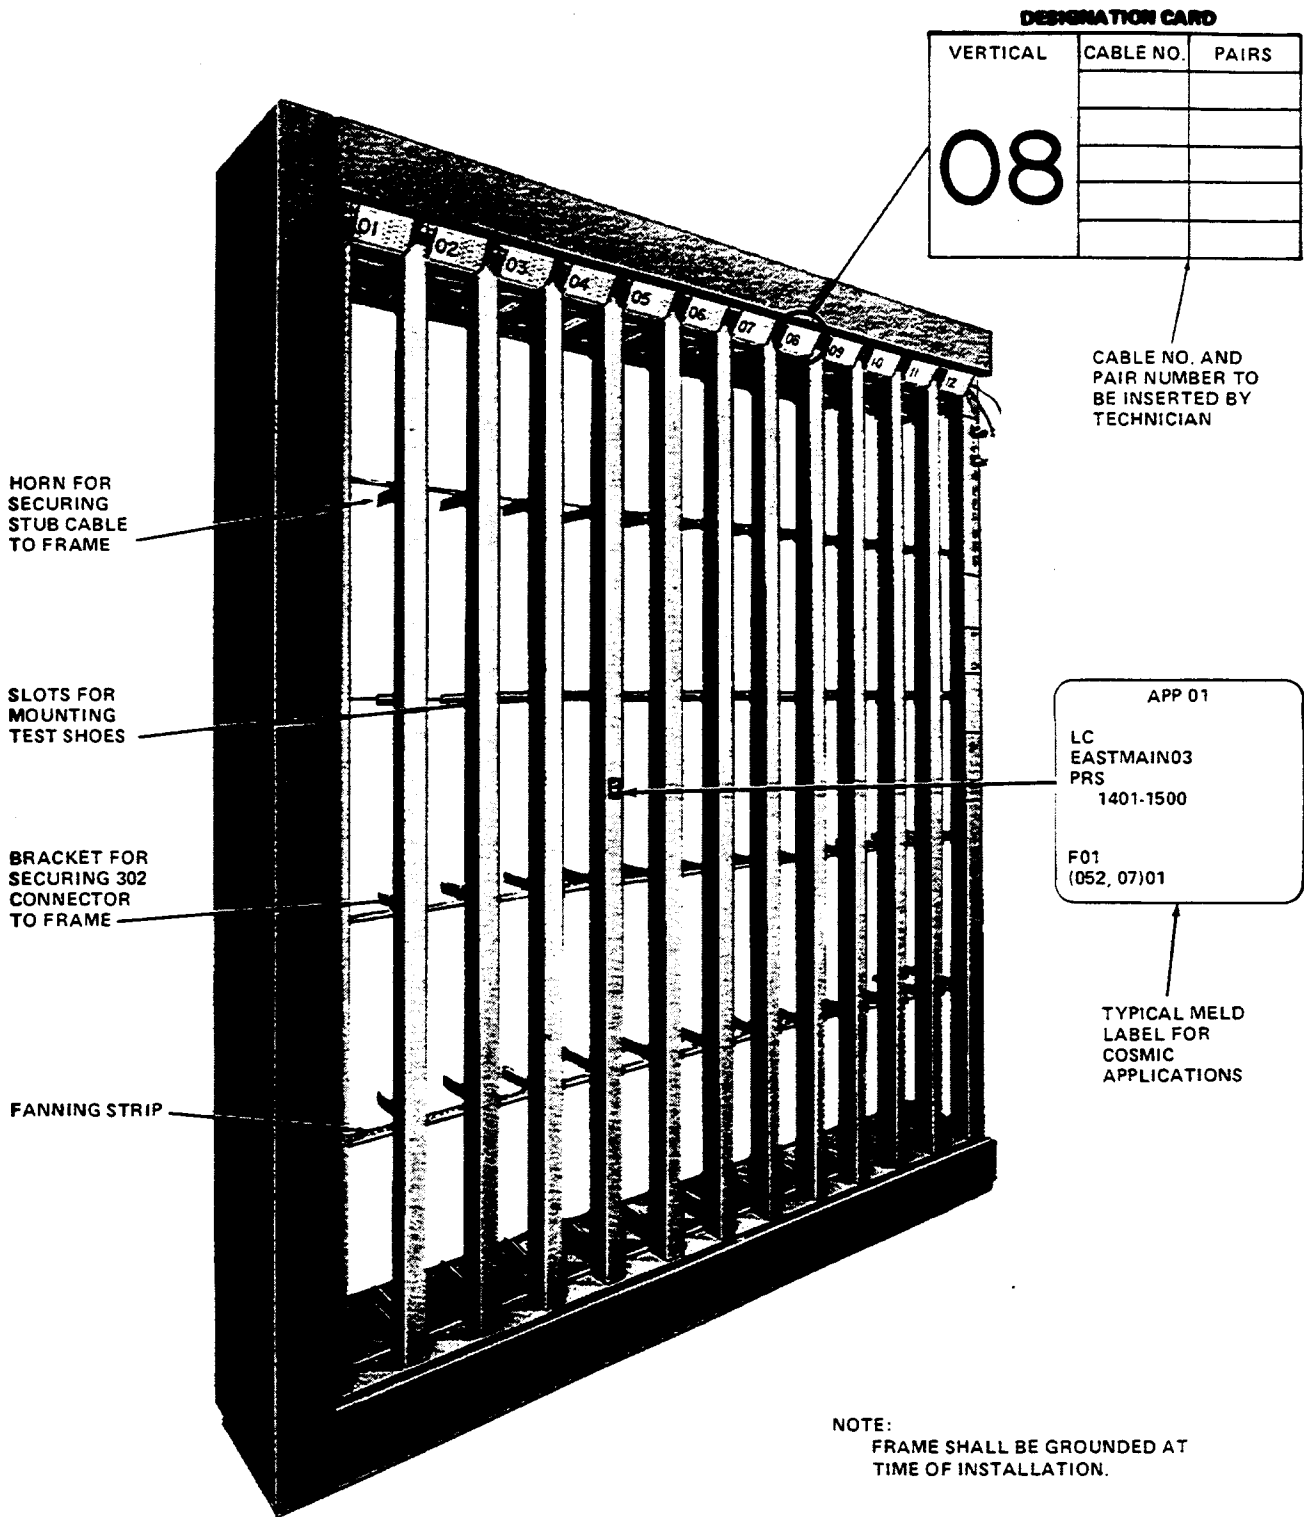

Figure 7—Modular Type Protector Frame
3.18 When the MELD/PACE label is used, place it on the protector frame to the left of the connector at about the middle of the connector (Figure 7).
3.21 Each modular type protector frame (Figure 7) is equipped with protector frame designation cards for identifying cable number and pair count. The craftsperson will insert the cable number and pair count on the designation card located at the top of the frame adjacent to the vertical number.